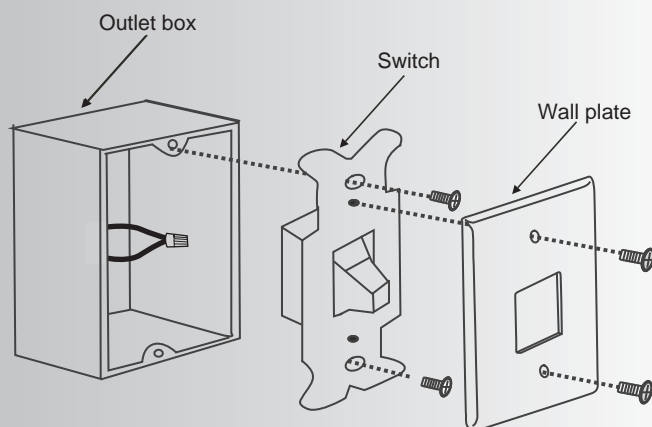

Fig. 20
Step 1. Remove the existing wall plate and the old switch from the wall outlet box. Wire nut the **BLACK** leads (hot) together and push back inside the outlet box. (Fig. 20)